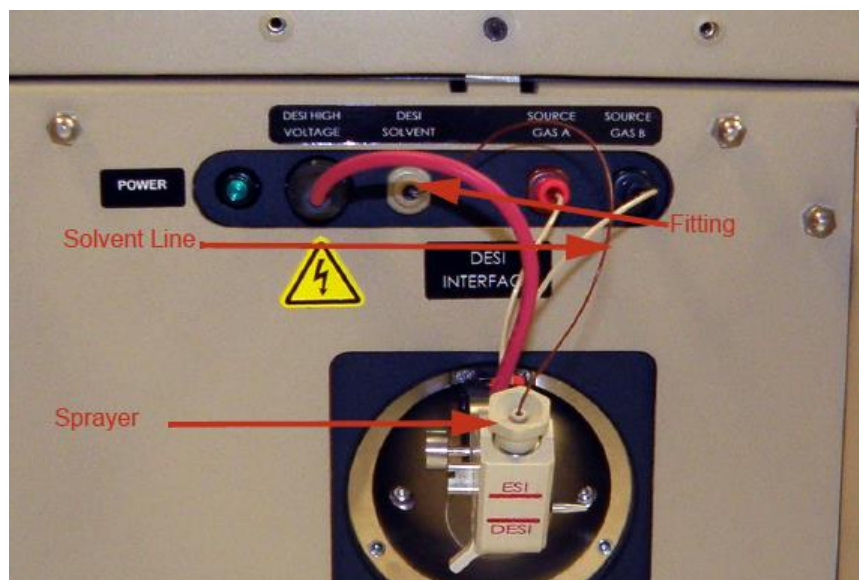

Figure 1.26 – Removing the solvent line
1. Disconnect the solvent transfer line from the front of the instrument by un-screwing the fitting represented in Figure 1.26.
2. **CAUTION!** The sprayer should be turned in a clockwise direction. Turning the sprayer counter-clockwise can cause the front and back PEEK polymer sections to separate from the center metal piece. To prevent this from happening **only turn the sprayer clockwise**. Remove the sprayer by pulling straight out. If the sprayer does not pull out easily, turn it clockwise while gently pulling (Figure 1.26).